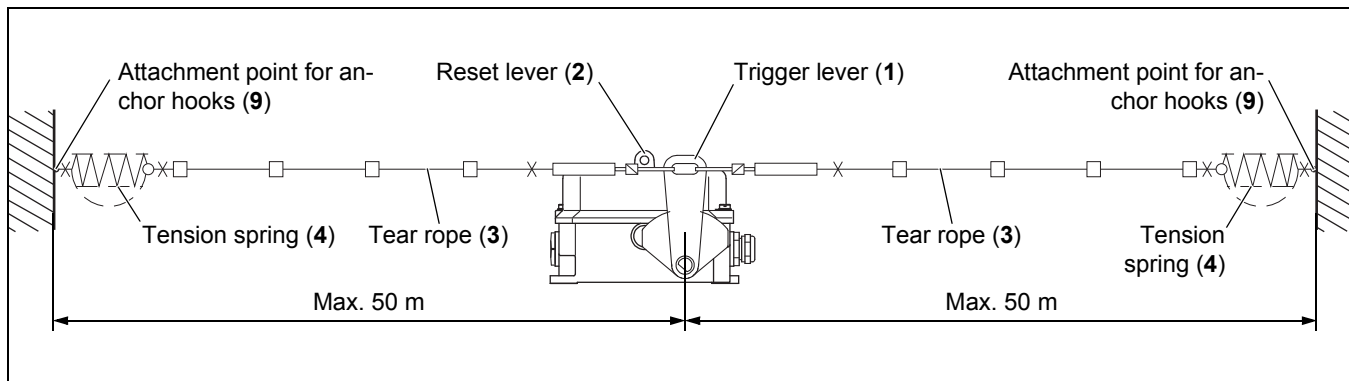

Fig. 3-1: Function
The trigger lever (1) for the pull-rope emergency stop switch is actuated via a pull wire (3) which is stretched along the conveyor system (see fig. 3-1).